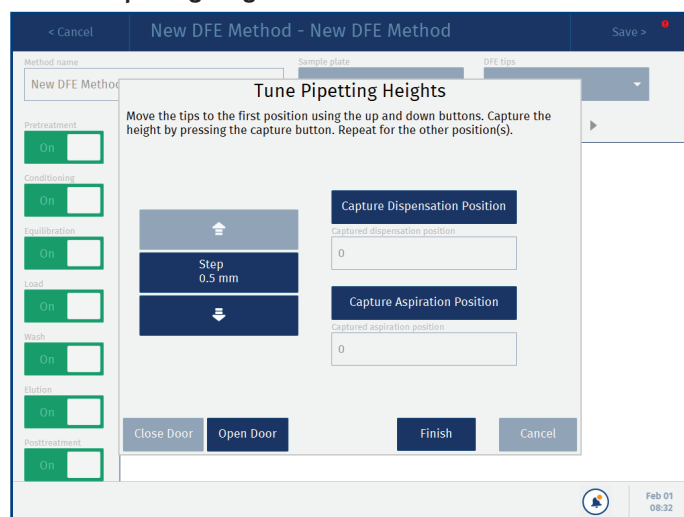

Figure 32. Wizard for setting pipetting heights.
- » **Aspiration height (mm):** The height used when aspirating from the sample plate using the DFE column tip. Press **Tune Pipetting Heights...** to set the height using a wizard; see Figure 32. For aspiration height in residual purge, see page 18.
- » **Dispensation height (mm):** The height used when dispensing into the sample plate using the DFE column tip. Press **Tune Pipetting Heights...** to set the height using a wizard; see Figure 32. For dispensation height in residual purge, see page 18.
- » **Mix aspiration/dispensation height (mm):** The height used for aspiration/dispensation when mixing the sample/eluate with the pretreatment/posttreatment solvent. Press **Tune Pipetting Heights...** to set the heights using a wizard; see Figure 32.
- » **Solvent dispensation height (mm):** The height used when dispensing the posttreatment solvent into the (last) elution plate. If there is no elution step, the system will dispense into the (last) wash plate. Press **Tune Dispensation Height...** to set the height using a wizard; see Figure 32.
Use the **Tune Pipetting Heights** wizard (see Figure 32) to:
- » **Aspiration height (mm):** The height used when aspirating air into the DFE column tip, when positioned above the sample/wash/elution plate. Press **Tune Pipetting Heights...** to set the height using a wizard; see Figure 32.
- » **Dispensation height (mm):** The height used when emptying the DFE column tip into the sample/wash/elution plate. Press **Tune Pipetting Heights...** to set the height using a wizard; see Figure 32.